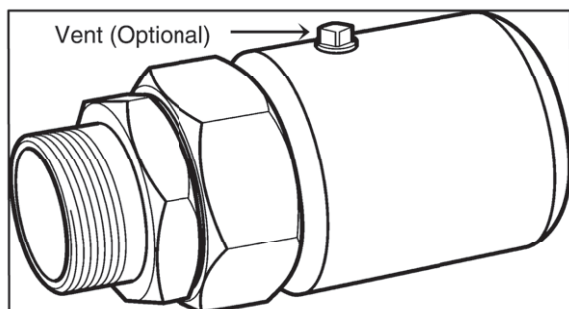

Figure: 4-46
- TracPipe® PS-II fittings are constructed from TracPipe® CounterStrike® patented **AutoFlare®** fittings with a plastic containment coupling and 1/4 inch NPT vent port. Fittings assemble without special tools. Figure 4-46